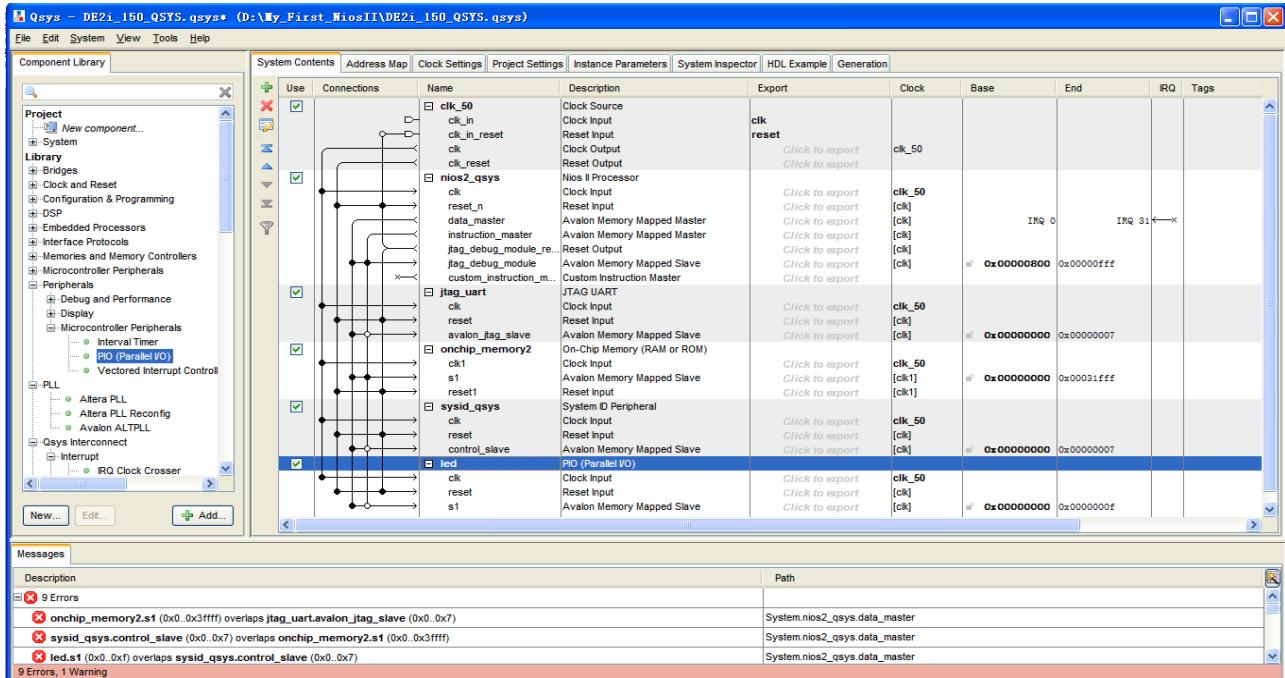

Figure 1-41 Connect PIO
26. Connect the clk and clk\_reset and data\_master as shown in Figure 1-41.